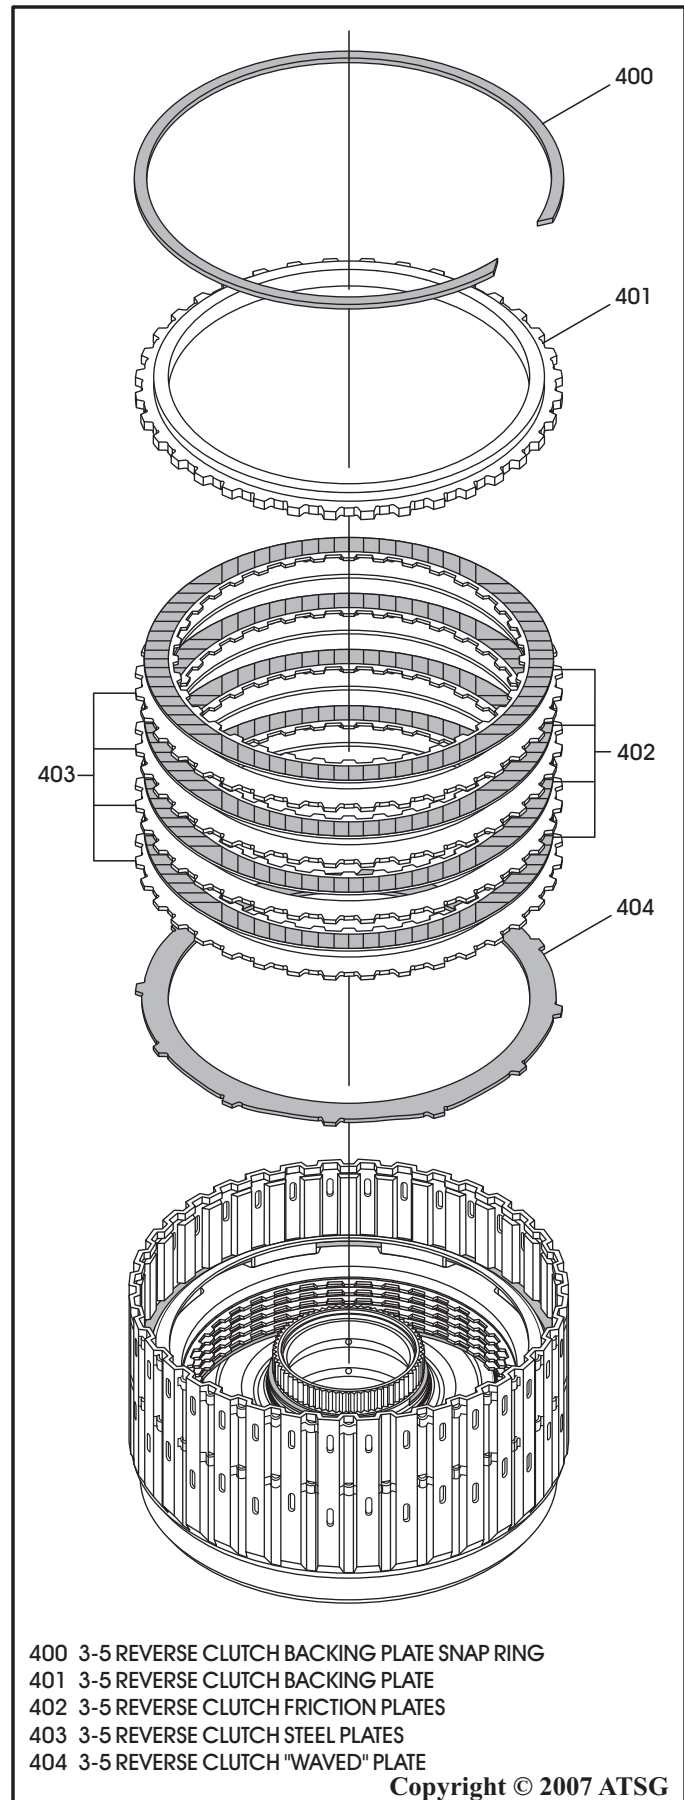

Figure 101
30. Install the 3-5 reverse clutch "wave" plate on top of the apply ring, as shown in Figure 101.
31. Install the 3-5 reverse clutch plates beginning with a steel plate and alternating with a friction plate until you have installed four of each, as shown in Figure 101.
32. Install the 3-5 reverse clutch backing plate, as shown in Figure 101.
33. Install the 3-5 reverse clutch backing plate selective snap ring, as shown in Figure 101.